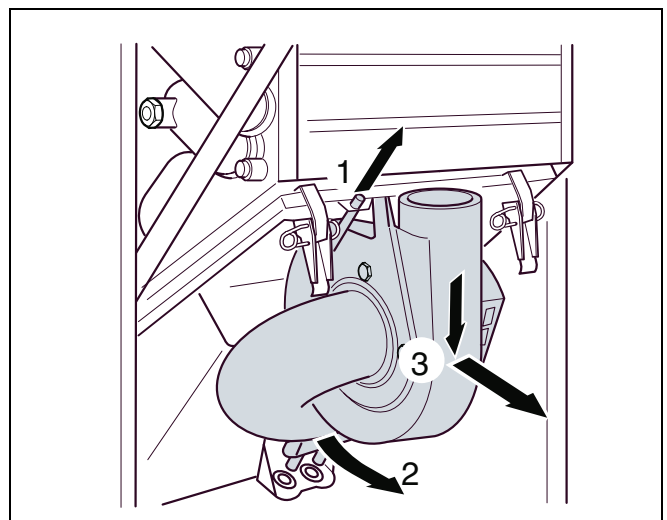

fig. 60 Removing the fan
- Push up the fan (fig. 60, item 1).
- Pivot the lower end of the fan forward (fig. 60, item 2) and take it out downwards and forwards (fig. 60, item 3).